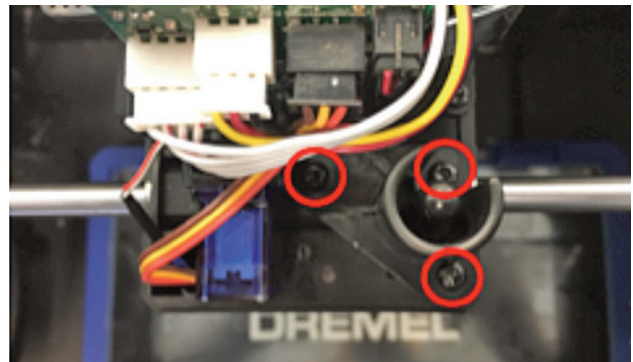

Figure 9: Unscrew servo motor levelling switch chassis.
- b. Replace the three screws holding the servo motor chassis in place as shown in Figure 9.